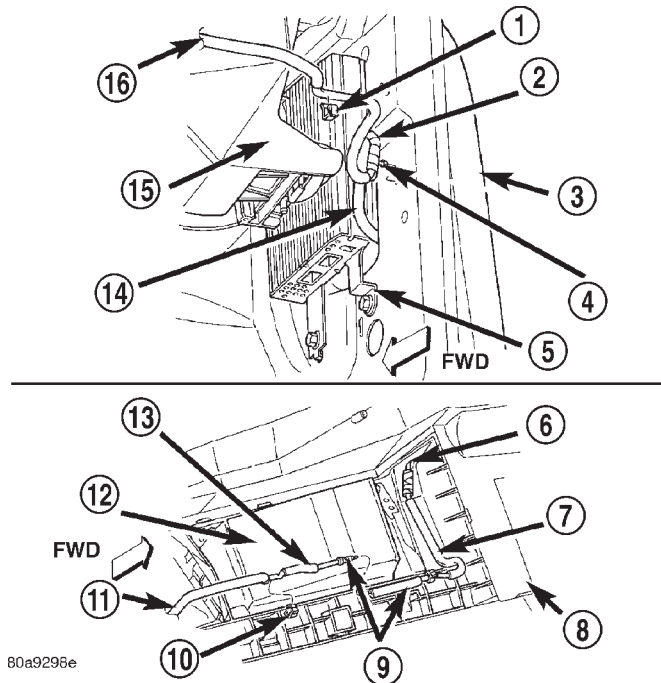

Fig. 12 Antenna Coaxial Cable Routing
(1) Disconnect and isolate the battery negative cable.
(2) Remove the trim cover from the right cowl side inner panel. Refer to **Cowl Trim Cover** in the Removal and Installation section of Group 23 - Body for the procedures.
(3) Reach under the instrument panel below the glove box to access and disconnect the antenna coaxial cable connector (Fig. 12). Disconnect the connector by pulling it apart while twisting the metal connector halves. Do not pull on the cable.
(2) Reach under the instrument panel below the glove box to access and disconnect the antenna coaxial cable connector (Fig. 12). Disconnect the connector by pulling it apart while twisting the metal connector halves. Do not pull on the cable.
(3) Securely tie a suitable length of cord or twine to the instrument panel half of the antenna coaxial cable connector. This cord will be used to pull or "fish" the cable back into position during installation.
(4) Disengage the instrument panel antenna cable from the retainer clip on the lower instrument panel reinforcement inboard of the glove box opening.
(5) Roll down the glove box from the instrument panel. Refer to **Glove Box** in the Removal and Installation section of Group 8E - Instrument Panel Systems for the procedures.